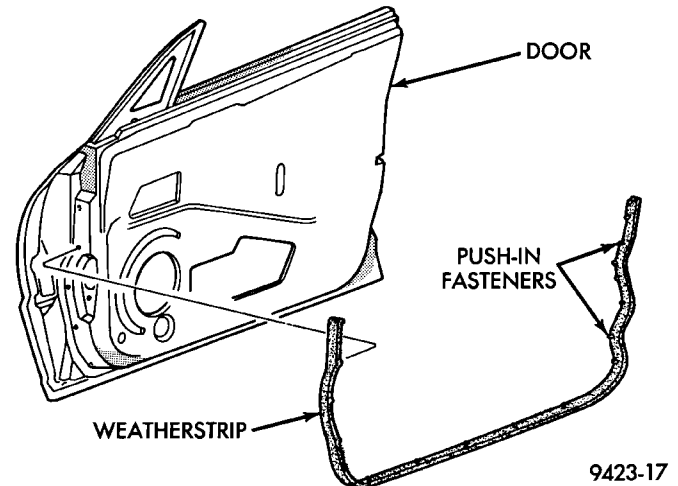

Fig. 38 Front Door Weatherstrip
- (1) Using a fork-type prying tool, disengage push-in fasteners holding weatherstrip to door (Fig. 38).
- (2) Separate weatherstrip from door.